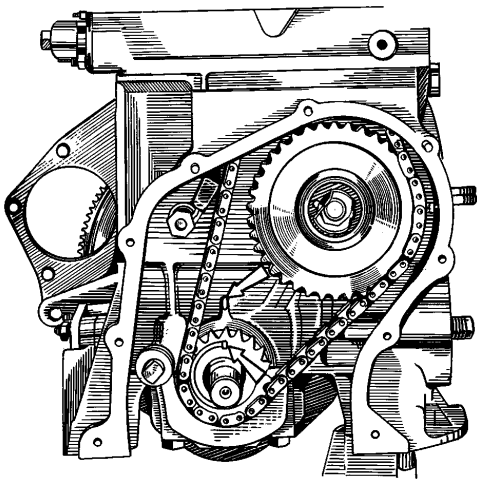

Fig. 2-19. Aligning the timing marks on the crankshaft sprocket and cylinder block
Turn the flywheel so that the mark on the crankshaft sprocket is against the cylinder block mark (Fig.2-19).
- turn the crankshaft two turns forward to ensure the chain tension required; check the indentations in the sprockets are aligned with TDC marks in the cylinder block and bearing housing (Fig.2-19 and Fig.2-21);